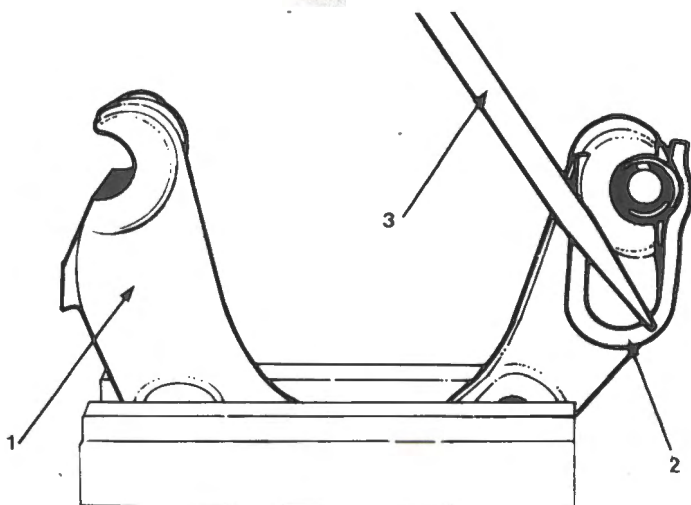

Fig. R-16
- 8 Clamp the bracket in a vice and using a screwdriver remove the anti-rattle spring from the anchor bracket and guide. Fig. R-16.